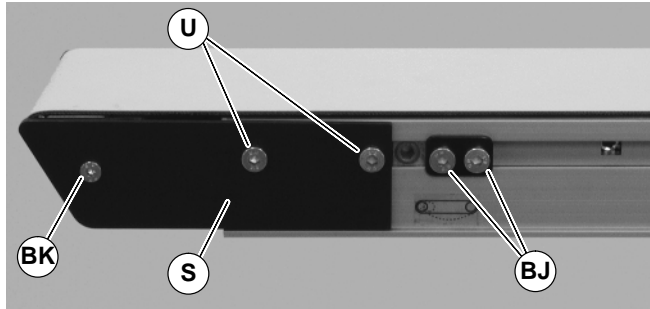

Figure 48
1. On both sides of conveyor, use a 4 mm hex-key wrench to loosen cam fastening screws (BJ of Figure 48) and slide cam assemblies toward the center of the conveyor.
5. After replacing bearings, re-install head plate (S of Figure 48). Use a 3 mm hex-key wrench to tighten one (1) fastening screw (BK) to 30 in-lb (3.4 Nm). Leave two (2) fastening screws (U) loose for belt tensioning.